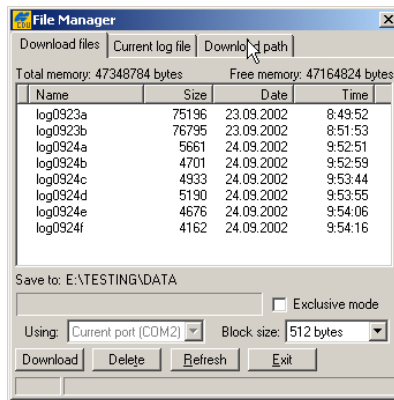

Figure 4-3. Find Files to Download
3. Click **File** ► **File Manager**, then click the **Download path** tab on the **File Manager** dialog box (Figure 4-3).